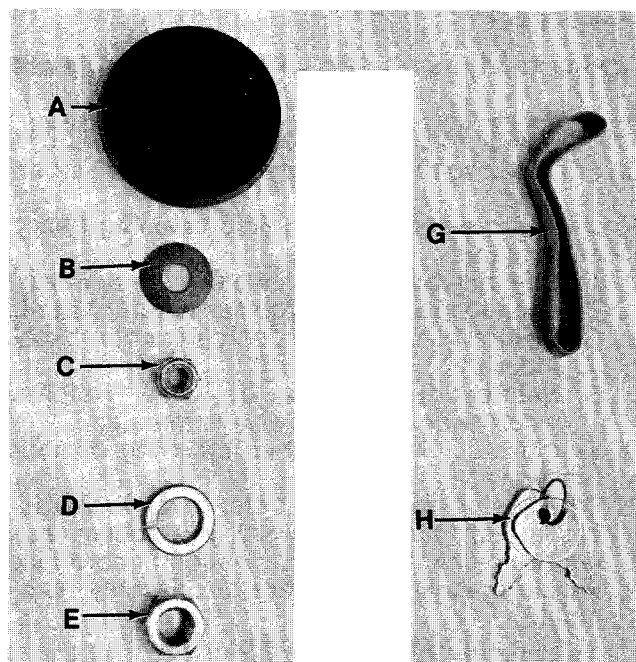

FIGURE 1.
Contents of Hardware Pack: (See figure 1)
- B. Place seat on spring and secure with lock washer (D) and hex nut (E). See figures 1 and 3.